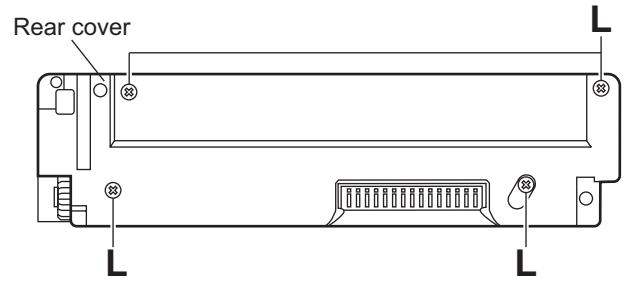

Fig.10
2.1.9 Removing the front board (See Figs.10 to 12)
- (1) Remove the four screws **L** attaching the rear cover on the back side of the front panel assembly. (See Fig.10.)